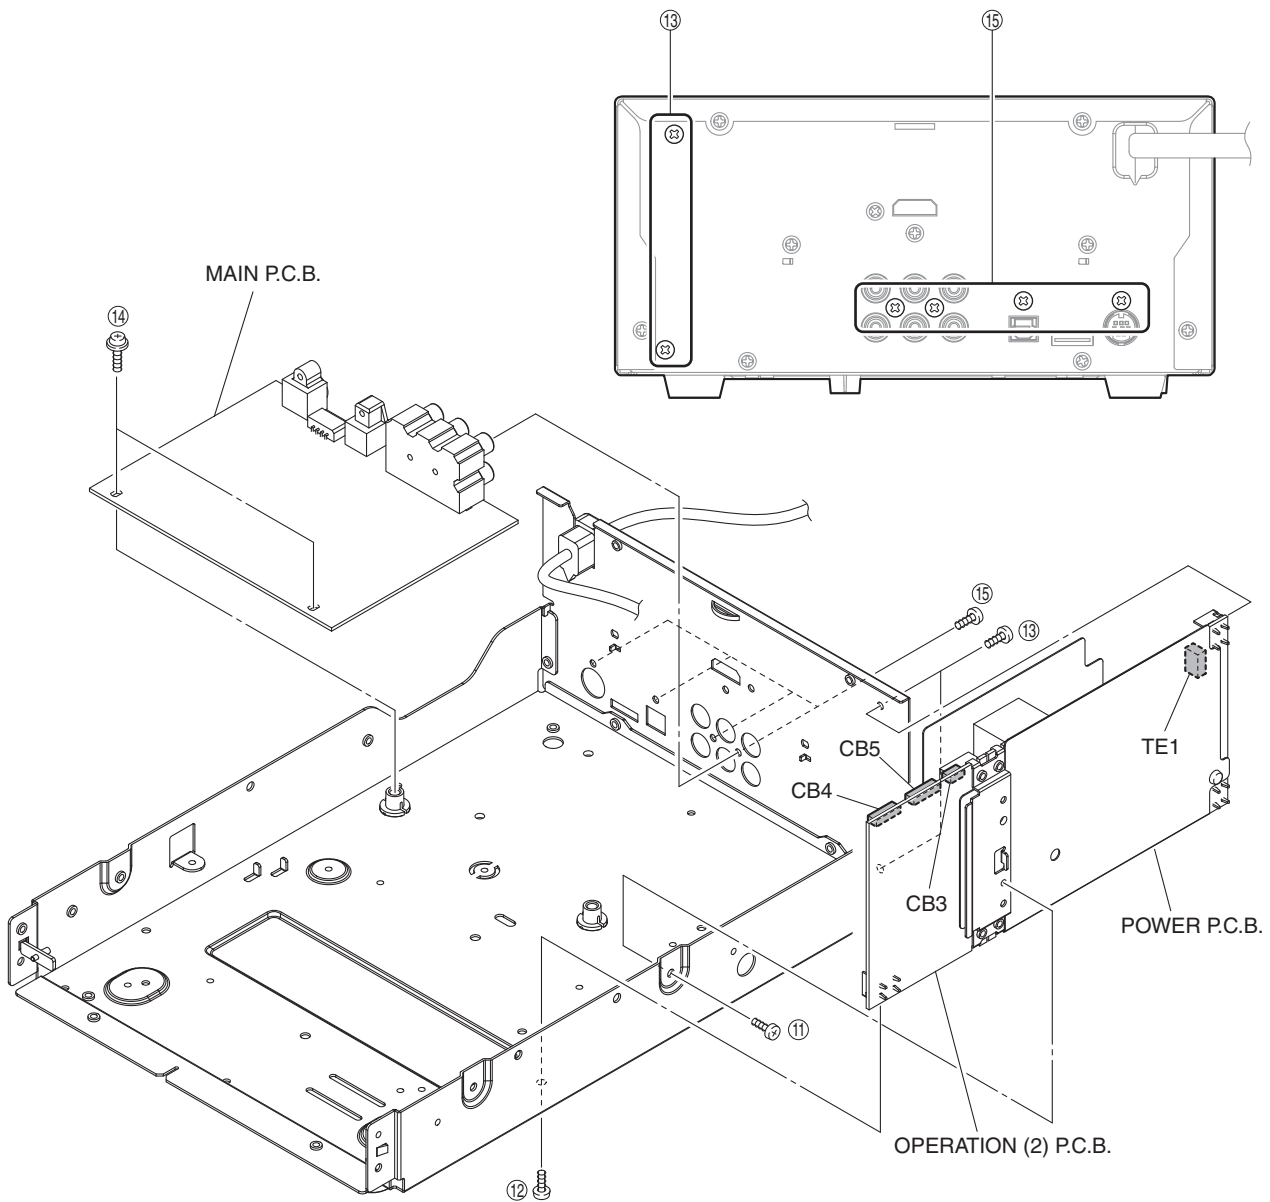

Fig. 3
5. Removal of POWER and OPERATION (2) P.C.B.s
- Remove screw (11) and screw (12). (Fig. 3)
- Remove 2 screws (13). (Fig. 3)
- Remove CB3-5 and TE1. (Fig. 3)
- Remove the POWER P.C.B. together with the OPERATION (2) P.C.B.. (Fig. 3)
- Remove 2 screws (14). (Fig. 3)
- Remove 4 screws (15). (Fig. 3)
- Remove the MAIN P.C.B.. (Fig. 3)